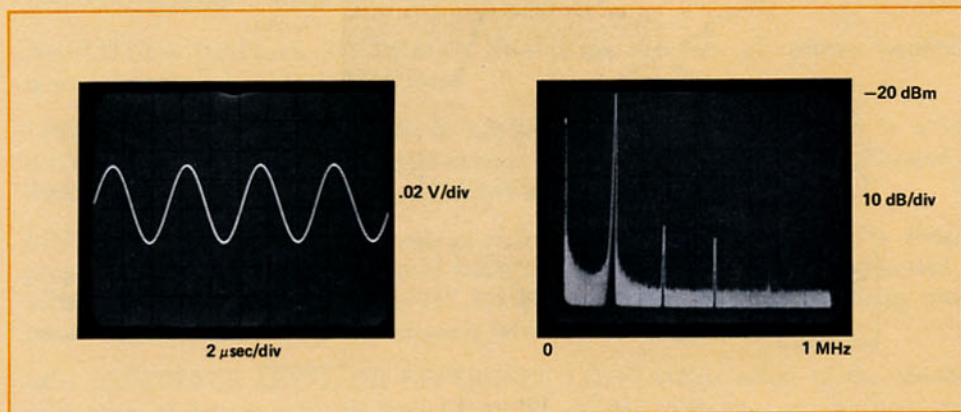

Figure 1.3
1. The analyzer is more sensitive to low level distortion than a scope. The sine wave in Figure 1.3 looks good in the time domain, but in the frequency domain, harmonic distortion can be seen.